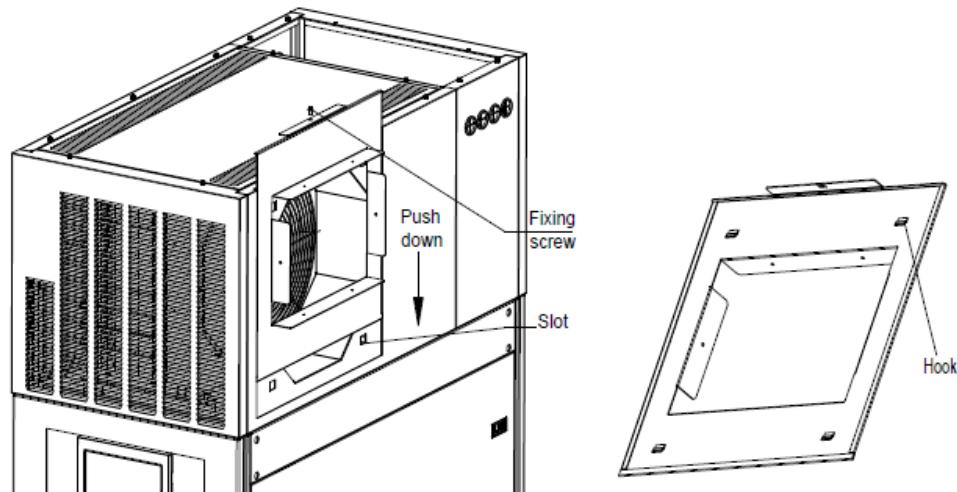

Figure 2-29 Installation of the air channel parts
3. Push the air channel parts into the top body frame from top to bottom. Use M6X16 screws (4 PCS) to fix the parts on the top body frame as shown in Figure 2-29: